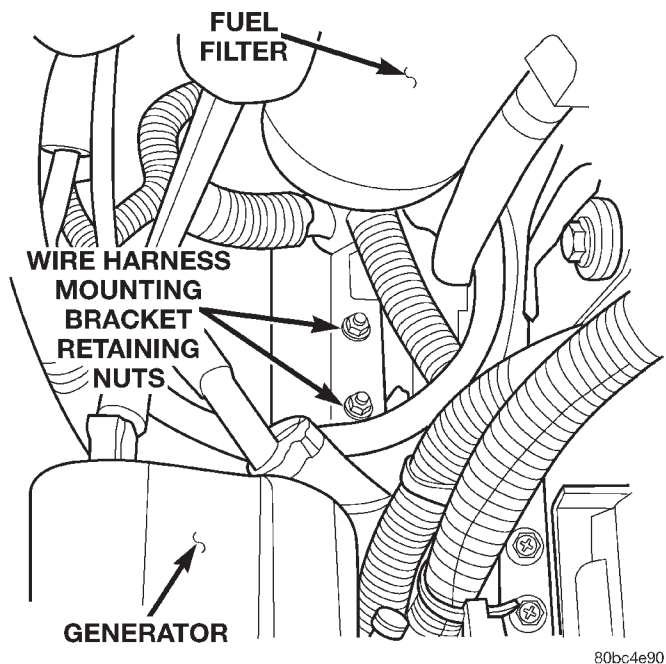

Fig. 13 Wire Harness Mounting Bracket
(55) Remove the wire harness mounting bracket retaining nuts from the left engine mount (Fig. 13).
(56) Disconnect the black and gray 10-way electrical connectors from the engine wire harness.
(57) Disconnect the A/C compressor clutch and glow plug harness electrical connectors.